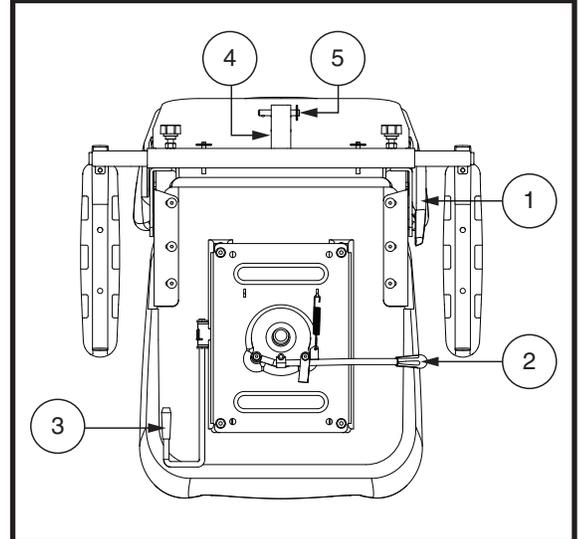

Figure 22. Seat Adjustments – Style B
If your scooter is equipped with a reclining seatback, you can adjust the seatback angle with the seatback adjustment lever. See **figure 22**.
1. Move the seat sliding lever (located at the lower left side of the seat) outward. See **figure 22**.
Armrest angle of your scooter can be adjusted upwards or downwards by turning the adjustment. See **figure 22**.
The rear-mounted accessory bracket allows you to attach a personal accessory such as a basket, walker holder, or oxygen tank to the back of your scooter. Utilize the detent pin to securely mount your item to the accessory bracket. See **figure 22**. See your authorized Provider for details.